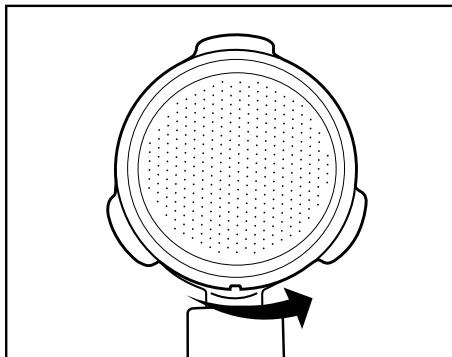

Figure 3
- Then turn the large 19 or small espresso sieve 20 slightly to ensure it cannot fall out (Figure 3).